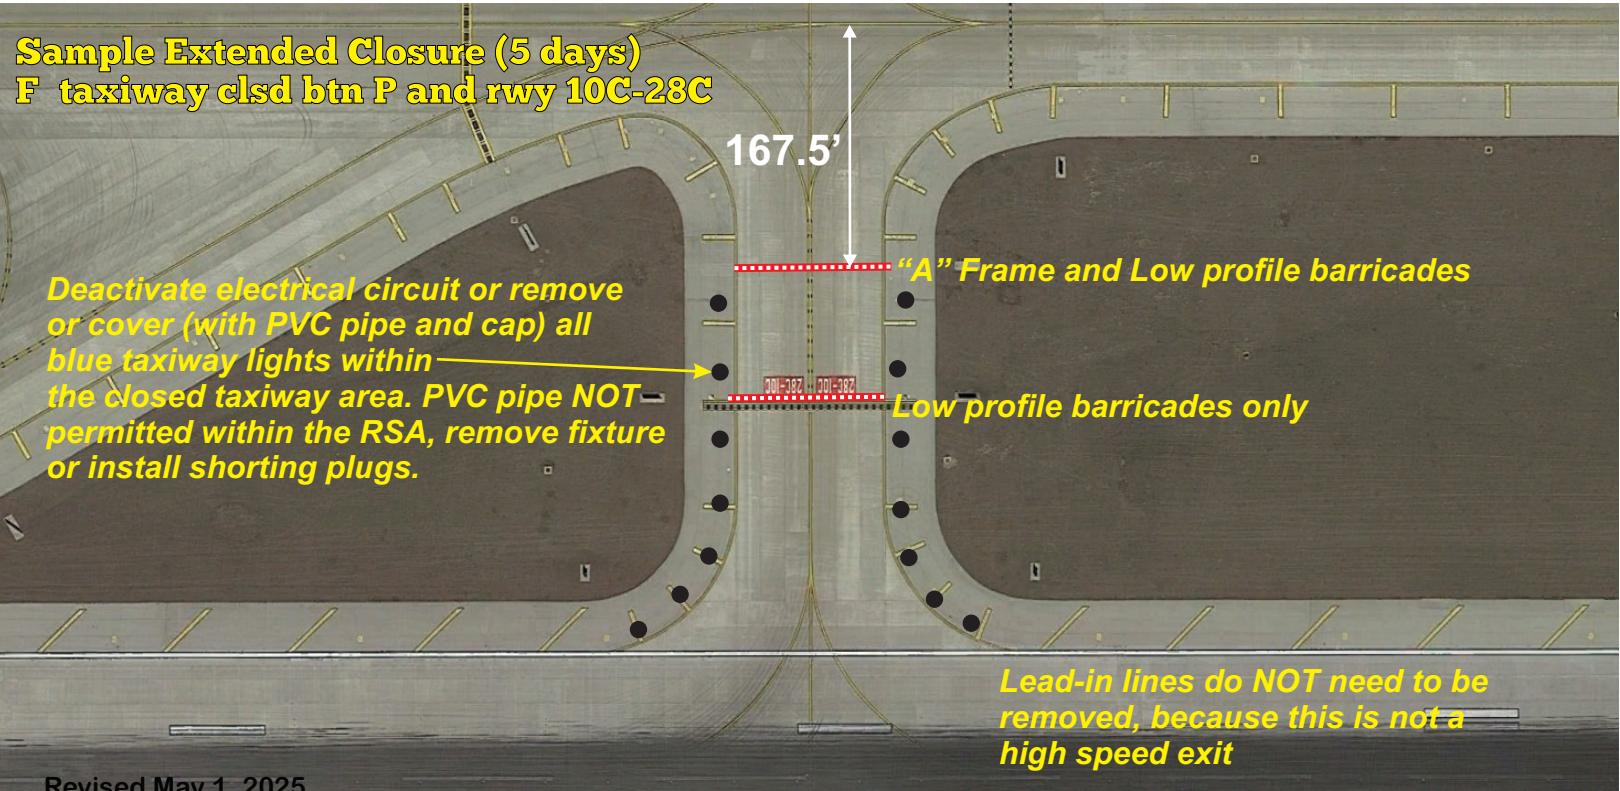

Figure 3
- 1. Low profile barricades are established at the hold bar of any taxiway closure that intersects an open runway. (Fig. 3)